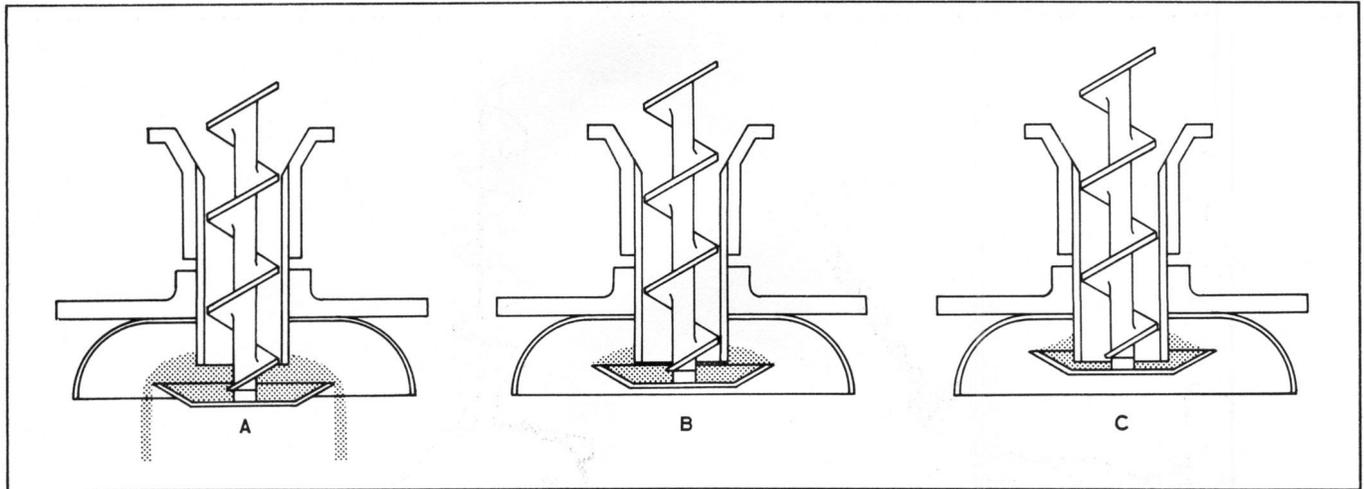

Figure 3-59. Adjusting Spinner
(2) Cycle filler. A side view of the product in the spinner should look similar to that in A, Figure 3-59. This is a convex shape with product over spill and indicates that spinner is too low.
(3) Turn auger drive shaft on drive assembly lower main shaft to raise the spinner. Turn the drive shaft in increments of 1/16 to 1/8 inch and cycle filler.
(4) Continue procedure in step (3) and check side configuration of product in spinner. When side view of product in spinner looks approximately the same as shown in B, Figure 3-59 (convex shape with no spill) the setting is correct. If the side view is concave as shown in C, Figure 3-59 the spinner has been adjusted too high.
(5) After obtaining proper adjustment tighten drive shaft adapter lock nut against auger drive shaft and install collector.